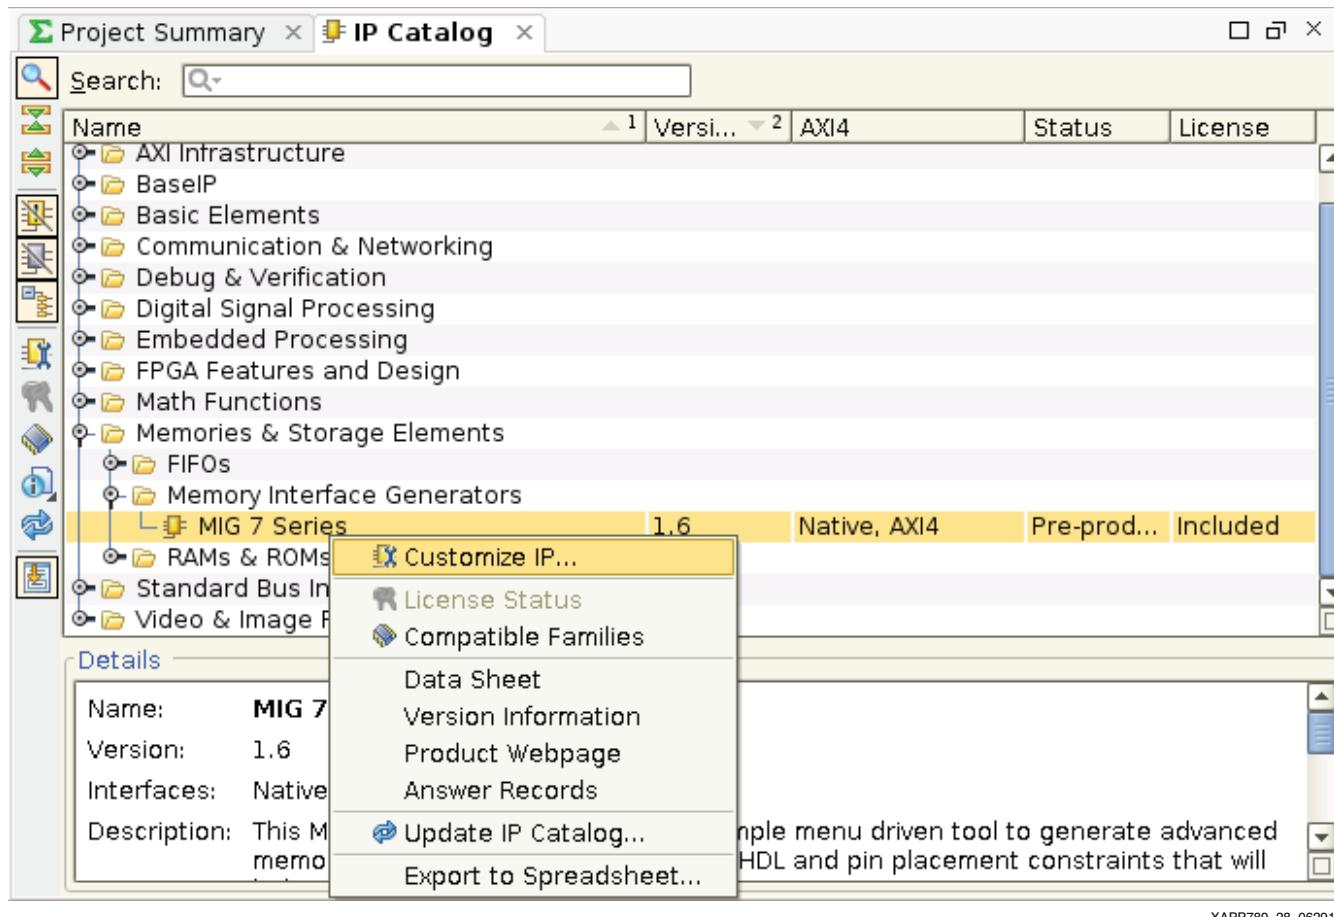

Figure 28: IP Catalog Menu
15. Right-click and select **Customize IP** to start the configuration for the memory controller (Figure 28). It might take a few minutes to launch the IP customization GUI.